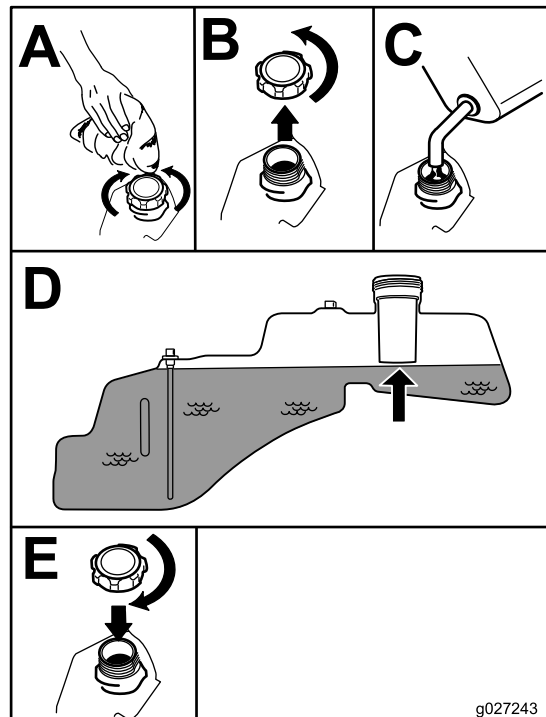

Figure 9
**Note:** You can use the fuel window to verify the presence of gasoline before filling the tank (Figure 9).